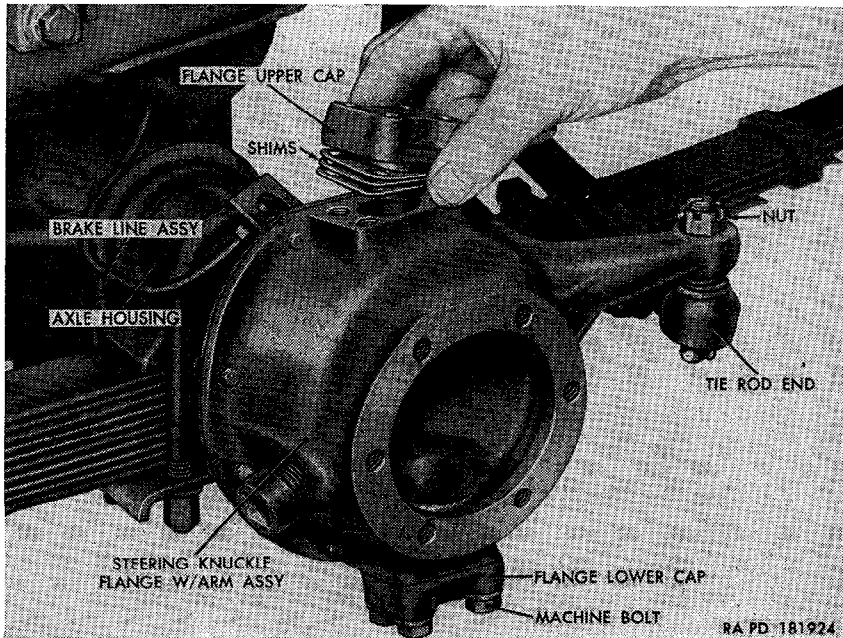
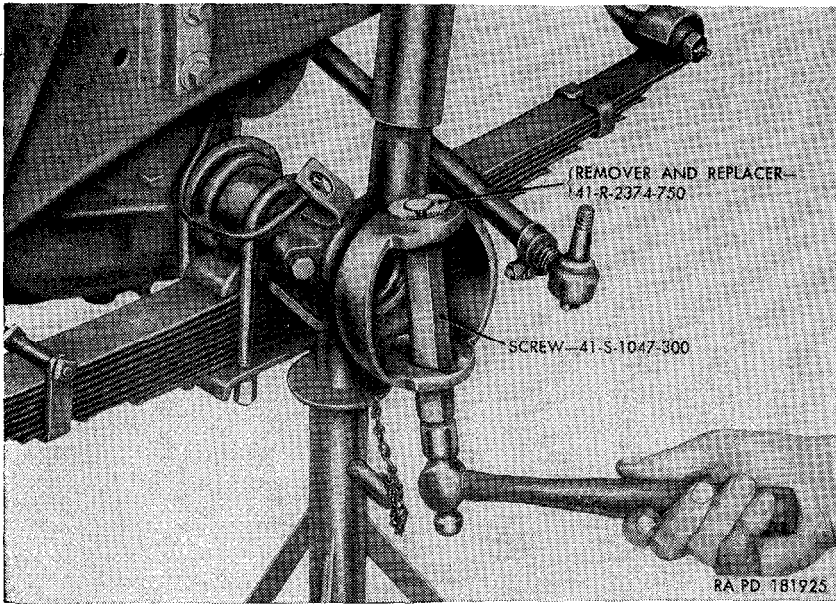

Figure 141. Removing flange upper cap and shims from right steering knuckle flange.
Figure 142. Removing steering knuckle flange bearing cup from front axle housing, using remover and replacer 41-R-2374-750 and screw 41-S-1047-300.
- (1) Remove the axle shaft with universal joints assembly (par. 207a).
- (2) Withdraw the cotter pin and unscrew the nut securing the steering tie rod end to the steering knuckle arm (fig. 141).
- (3) Remove the front brake flexible line assembly (par. 236b(1)(a)).
- (6) Loosen the four bolts securing the flange lower cap (fig. 141) to the flange and remove the bolts and lockwashers. Pry the cap from the flange.
- (7) Remove the steering knuckle flange oil seal with retainer assembly (par. 212a).
- (8) Pull the steering knuckle flange off the axle housing and steering tie rod end.
- (9) Lift one bearing cone out of the flange and the other out of the axle housing.
- (10) Position the remover and replacer 41-R-2374-750 and screw 41-S-1047-300 (fig. 142) in the axle housing and drive one steering knuckle flange cap bearing cup out of the housing. Remove the other cup in the same manner.
- (3) Insert flange lower cap (fig. 141) into the lower section of the flange, aligning the cap holes with the flange bolt holes. Secure the cap to the flange with two  $\frac{3}{8}$  x  $1\frac{1}{2}$  bolts and lock-washers.
- (4) Position the flange upper cap, with shims, over the upper section of the flange. Aline the cap and shim holes with the flange bolt holes. Secure the cap and shims to the flange with two  $\frac{3}{8}$  x  $1\frac{1}{2}$  bolts and lockwashers.
- (5) Hook a spring scale in the end of the steering knuckle arm and pull at right angles to the arm. The flange should move with a pull of between 6 to 9 pounds. Install or remove shims until adjustment is correct.
- (6) Install the steering knuckle flange oil seal with retainer assembly (par. 212*b*).
- (7) Position the front brake flexible line guard on the flange cap. Secure the guard to the cap and flange with two  $\frac{3}{8}$  x  $1\frac{1}{8}$  bolts and lockwashers.